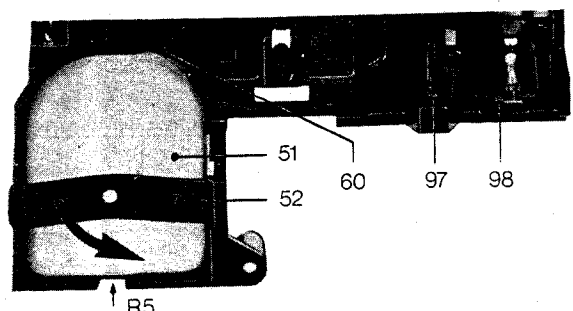

FIG. 7 MOTOR CHANGE.
To change the belt (69) or (73) remove screw (i) and take off bearing plate. Unhook springs (85) and (98). Do not damage feeler lever (97). See fig. 7. After refitting, check axial play of capstan. See para. (flywheel (70)).
For this the 50Hz recording of the test tape cassette 466 is used. An oscilloscope and a variable isolating transformer are required. Connect AF output (pins 3/2 of universal socket) to the input of the oscilloscope (Y deflection) (MS2). Switch X deflection to external deflection and feed in a variable voltage of 50Hz (variable isolating transformer) to the X input. The deflection should be approximately half the screen diameter. Play 50Hz recording of test tape cassette. Using R5 bring the displayed circle to a standstill (lissajous figure). See fig. 7. The 3150Hz recording serves to adjust the speed with tone pitch oscillator (e.g. Woelke ME 101, or EMT 420 manufactured by Franz KG.Lahr) or Grundig Universal Meter UZ 144.